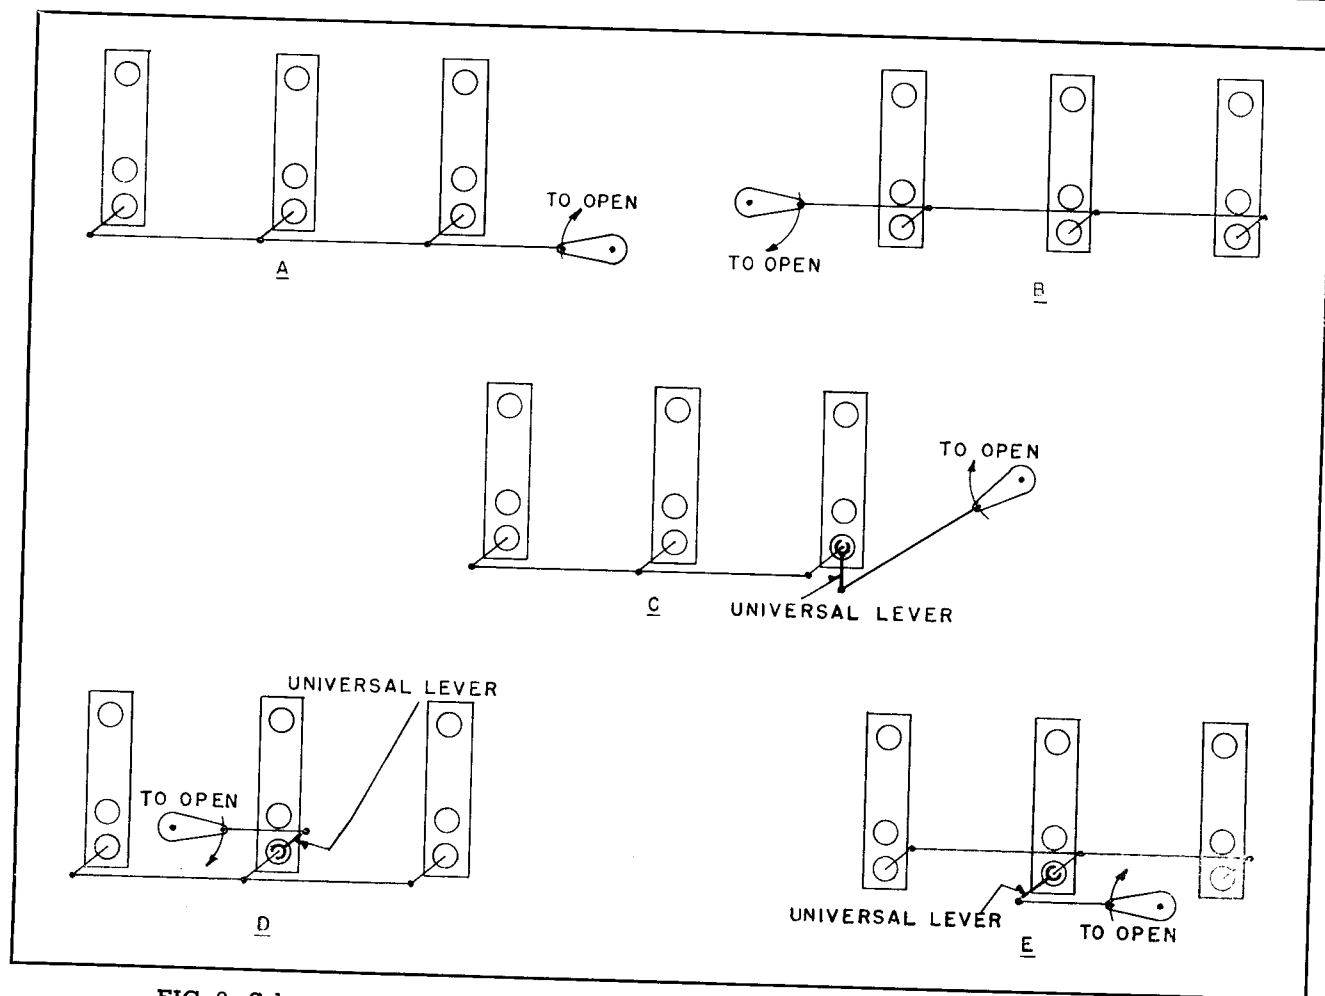

FIG. 6. Schematic Views showing several possible Arrangements of the Outboard Bearing, Connecting Pipe and Universal Lever
(2) IF the connecting pipe and the interphase pipes are in a straight line when the switch is closed, (Fig. 6A or Fig. 6B), the universal lever is not required. If the connecting pipe is not in line with the interphase pipes, (Figs. 6-C, 6-D, & 6-E) a fourth lever, called the universal lever, must be used.